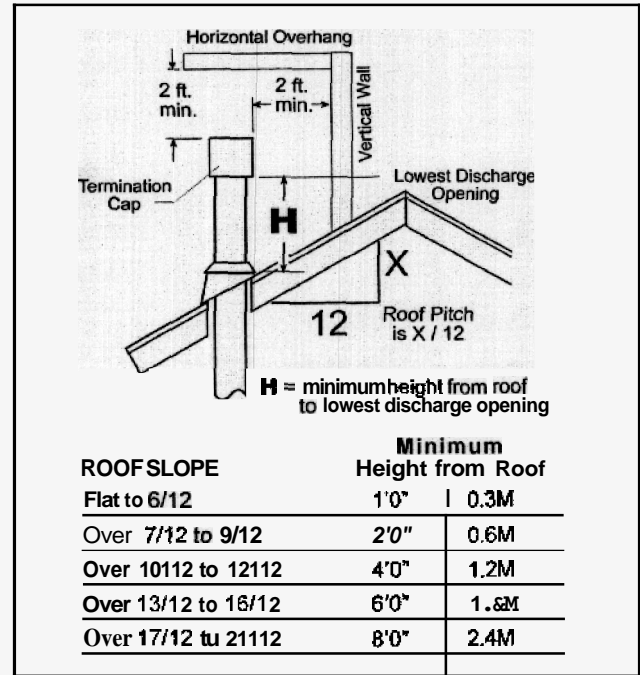

Figure 10. Gas Vent Height Rule: Vertical vent termination height above roof:
- The minimum vent height above the roof or adjacent walls is specified by major building codes. Use the Gas Vent Rule as a general guide. See Fig. 10. requirements of the approval listing and the manufacturer's instructions.